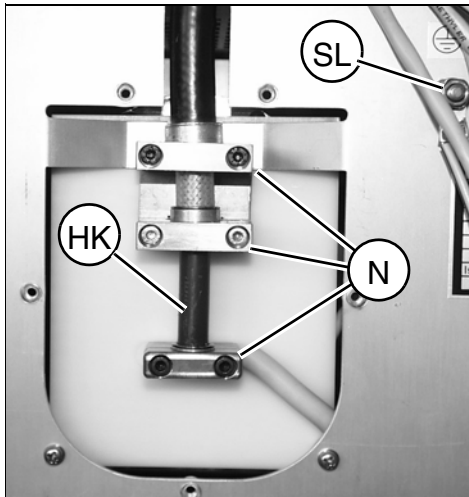

Fig. 13
- **Wait at least 10 minutes after switching the system off. Then remove the cover on the back high-voltage cable connection (Fig. 13).**
- Remove the high voltage cable (HK/Fig. 13) and the protective conductor (SL/Fig. 13) by removing the screws.
- Reattach the protective conductor and the high-voltage cable with the screws (Fig. 13).
- Remove the cover at the charging unit above the high-voltage connection by removing the screws (Fig. 13).
- Remove the three clamps (N/Fig. 13) on the high-voltage connection.
- Push the high-voltage cable back in the direction of the charging unit (in the basic unit) and connect it (Fig. 13).